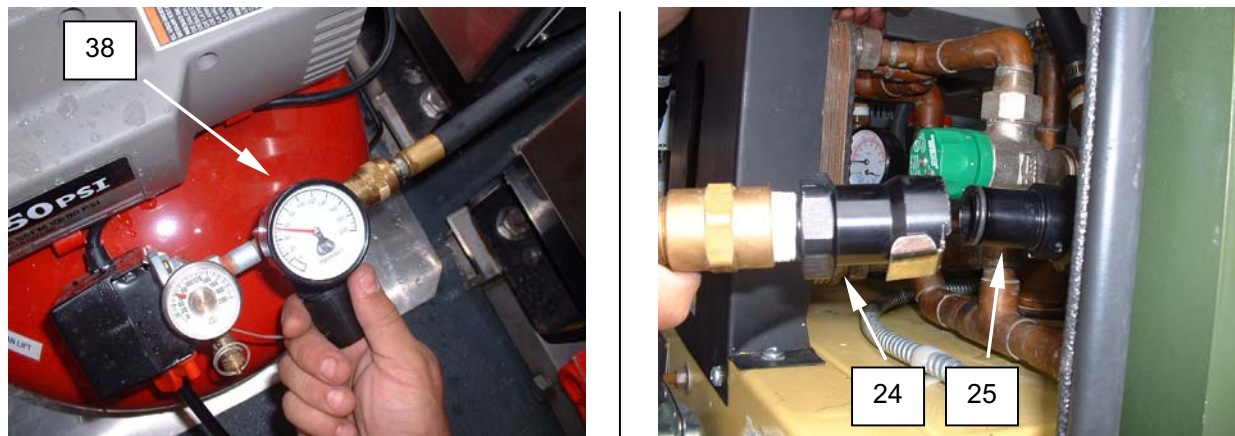

Figure 22. Complete Air Purge.
9. Verify that the air compressor pressure gauge (Figure 22, Item 38) reads "0".
10. Disconnect air compressor hose (Figure 22, Item 24) from air purge connector (Figure 22, Item 25).